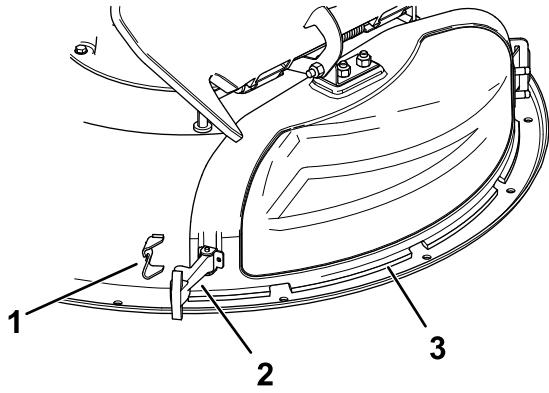

Figure 12
6. Secure the discharge cover to the deck by hooking the flexible latch on the discharge cover into the retainer on the deck (Figure 12).